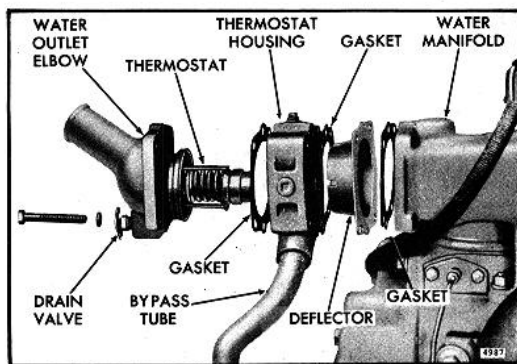

Fig. 1 - Typical thermostat Housing Mounting (Radiator Cooling System)
2. Remove the bolts which secure the outlet elbow and the thermostat housing (bypass tube) to the water manifold (Fig. 1).